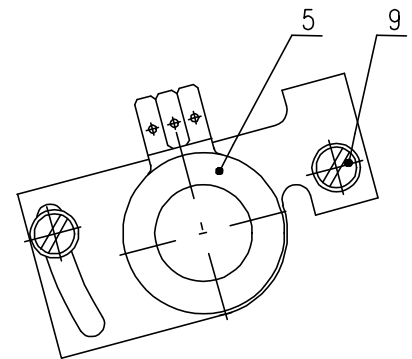

Fig.5
3.2 Adjustment of resistant transmitter (Fig.5)